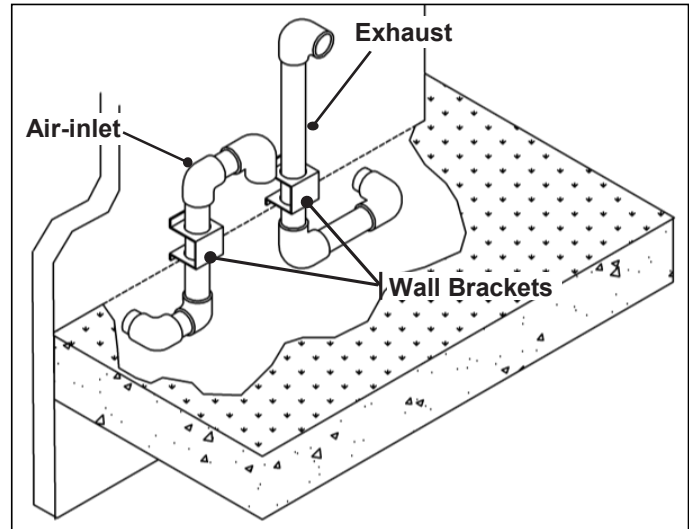

Figure 34 - Venting Below Grade
1. Excavate the site to a point where the pipes are to exit as shown in Figure 34.